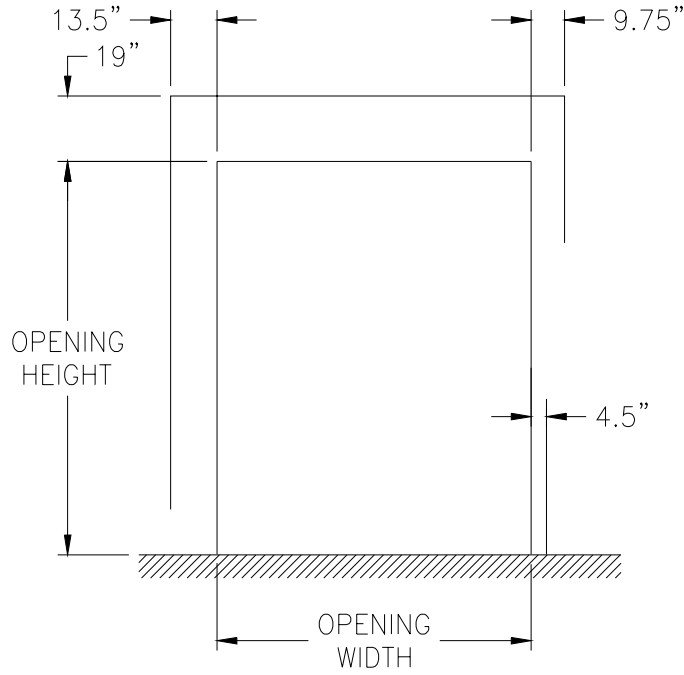

FIG. 4A
- Operator mounted on Side shown in Figures 4a and 4b.